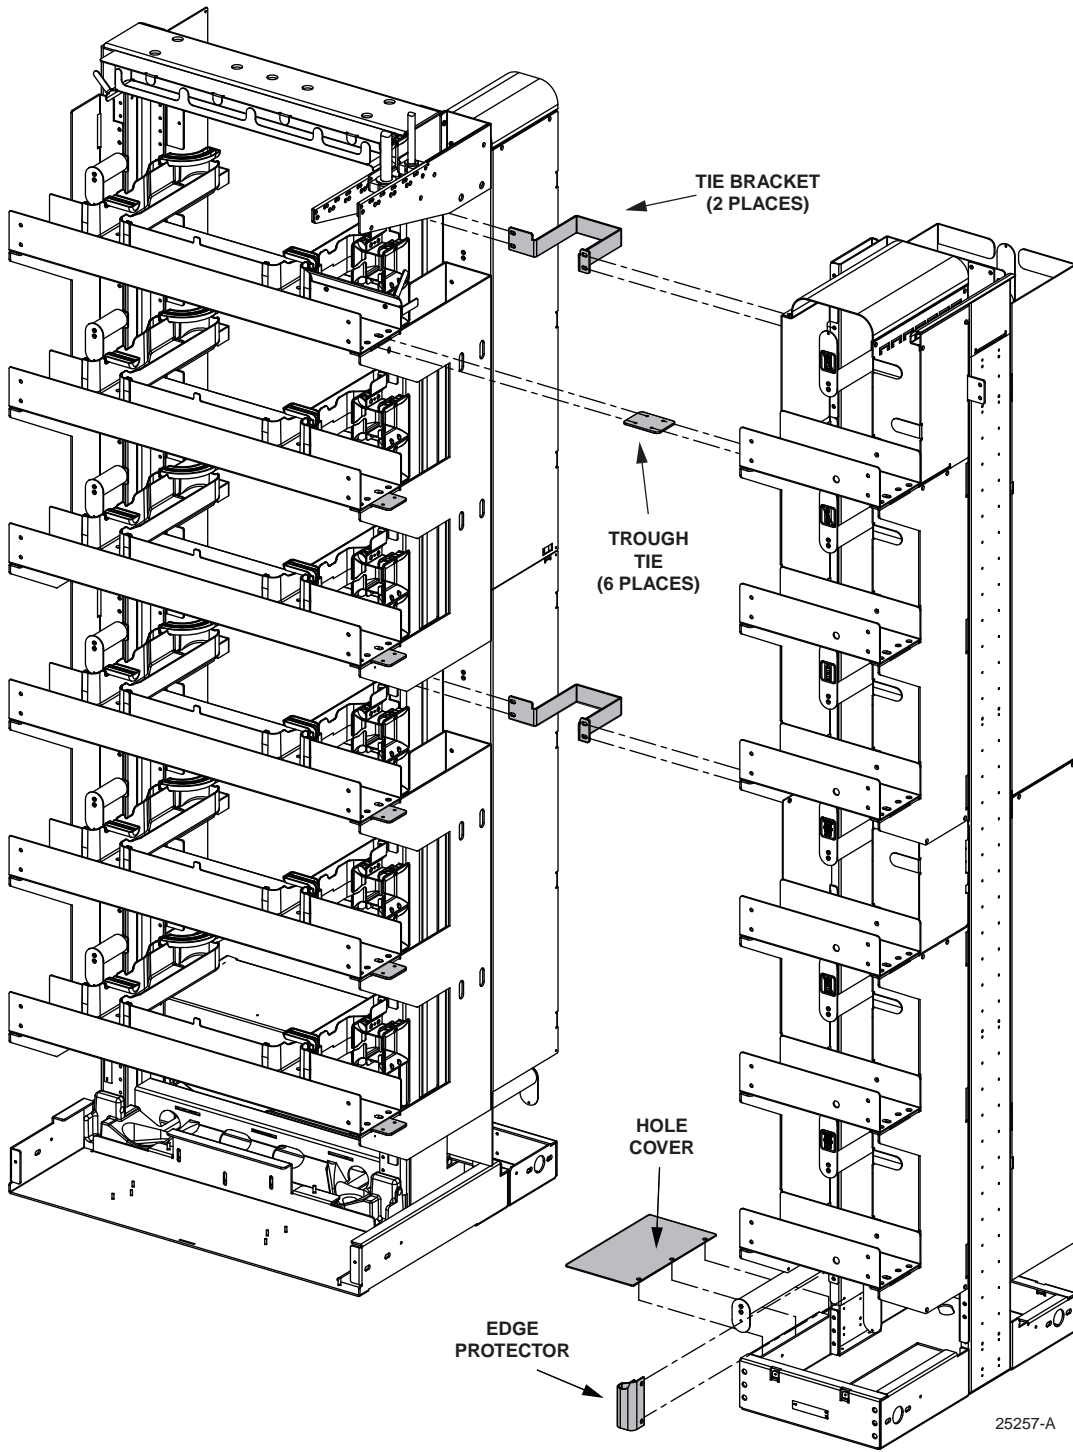

Figure 29. Installing Brackets
- Secure the FOTSP to the NG4access frame by installing tie brackets in two places and trough ties in six places as shown in Figure 29.
9. Install the hole cover in the location shown in Figure 29 on Page 32.